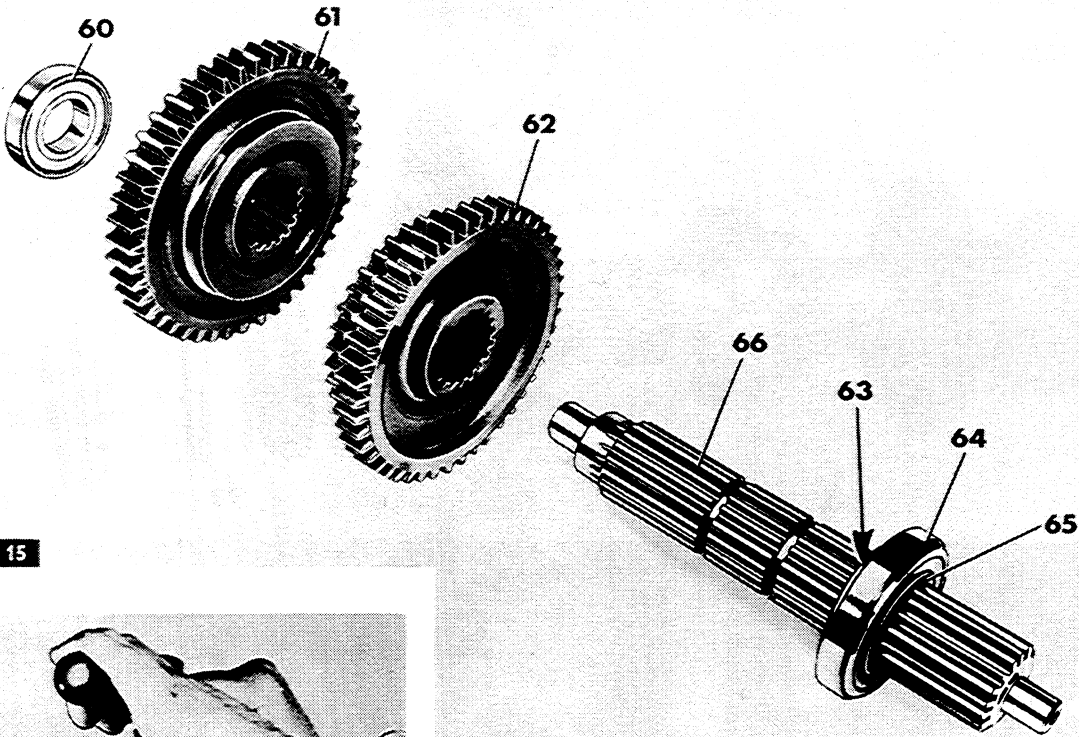
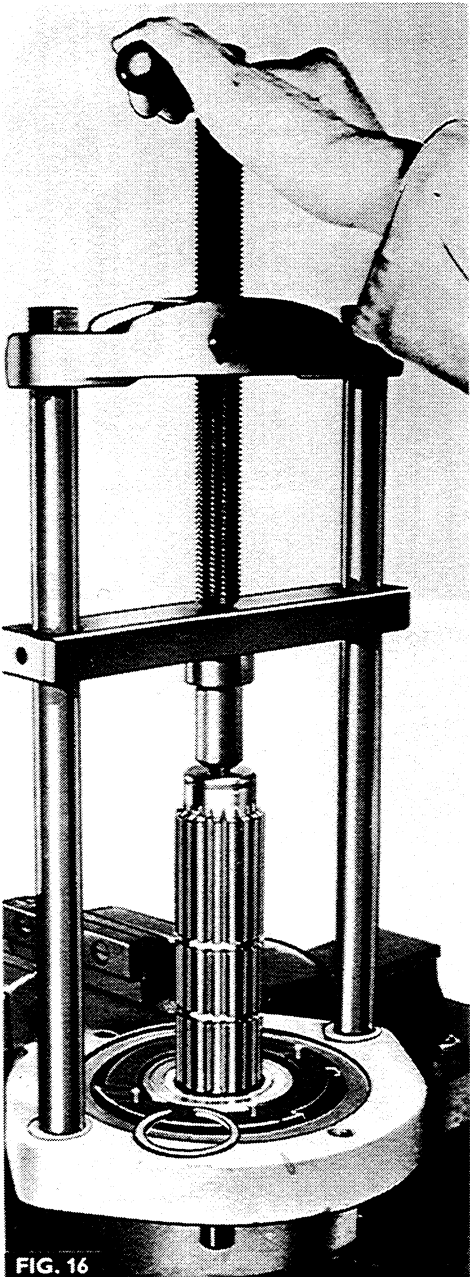

FIG. 15
FIG. 16
29. Screw two  $\frac{3}{8}$  UNC x 75 mm (3 in) bolts into the tapped holes in the bearing housing (82).
31. Remove the 'O' ring (81) from the bearing housing.
32. If the bearing (87) needs servicing, remove the circlip (86) and press out the bearing (87).
33. Fig 15. Pull the mainshaft (66) rearwards to release the mainshaft front bearing (60) from the centre web in the gearbox.
35. Withdraw the mainshaft rearwards and slide off the first/reverse gear (61) and the second/third gear (62).
36. Fig 16. Remove the circlip (63) from the mainshaft, then press off the bearing (64) using hand press MF 200 with the MF 200-25 adapter. Remove the rear circlip (65).